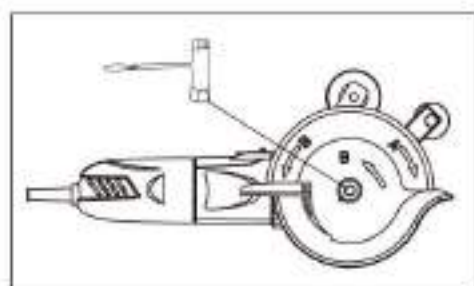

Fig.6
10. Tighten the lock nut clockwise and then release the press from the spindle lock (see Fig.6). This will allow the blades to turn freely.